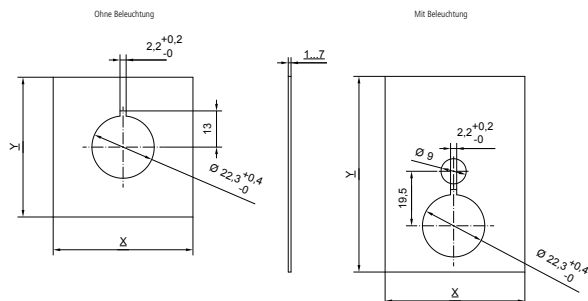

Fig. 4: Mounting holes dimensions of the built-in version (mm)
- Drill the mounting holes in the mounting plate (22.3 mm). For illuminable buttons, provide the mounting plate with an additional hole for the lighting connection. (Fig. 4)